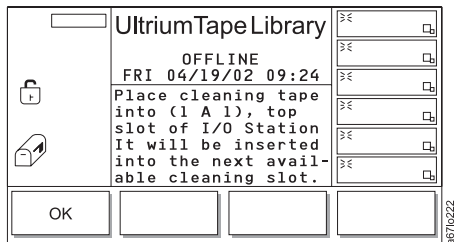

Figure 4-86. Cleaning Tape screen
- If no cleaning cartridge is present in the library (each of the three rectangular boxes contain no shading), import a cleaning cartridge by pressing the button below the **Import** softkey. The Cleaning Tape screen displays (see Figure 4-86).